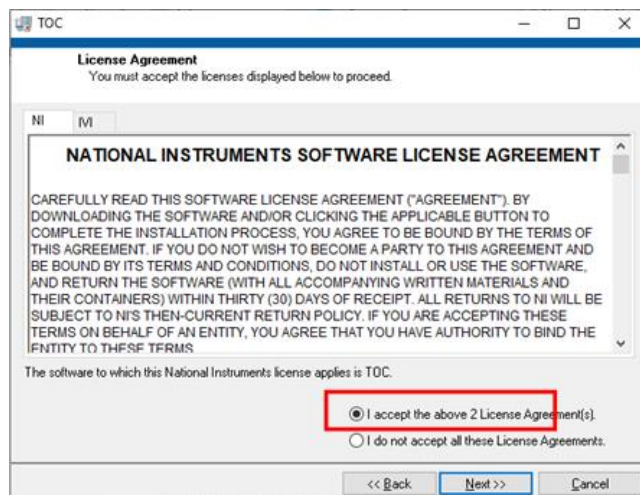

Fig.3.41
3) Select 'I accept the above 2 License Agreements', and click 'Next' (Fig.3.41).